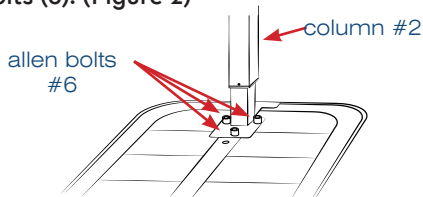

figure 2
2. Take column assembly (2) and mount onto bottom of top board (1) and secure with three Allen bolts (6). (Figure 2)